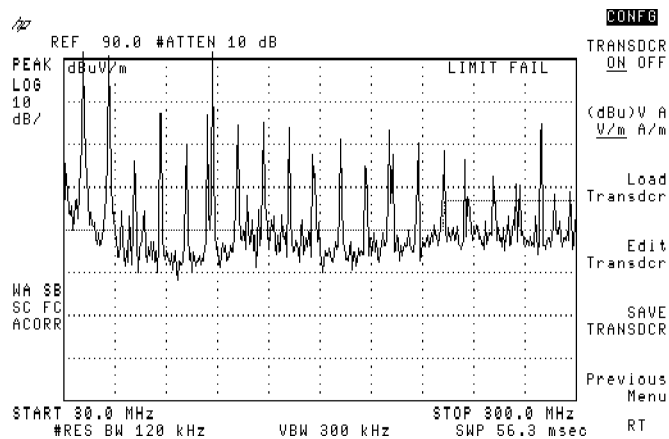
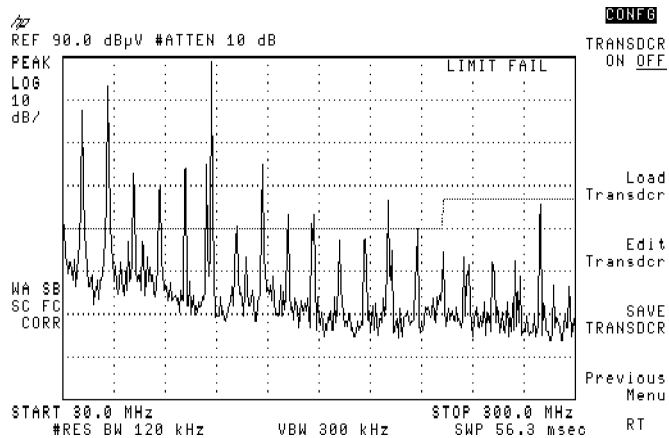

Figure 3-52. Transducer Factors Turned On
Figure 3-53. Transducer Factors Turned Off
18. Verify that the transducer factors are loaded by toggling the **TRANSDCR ON OFF** softkey off and on. See Figure 3-52 and Figure 3-53. The displayed trace will shift in amplitude, which will verify that the transducer factors have been loaded into the EMC analyzer.